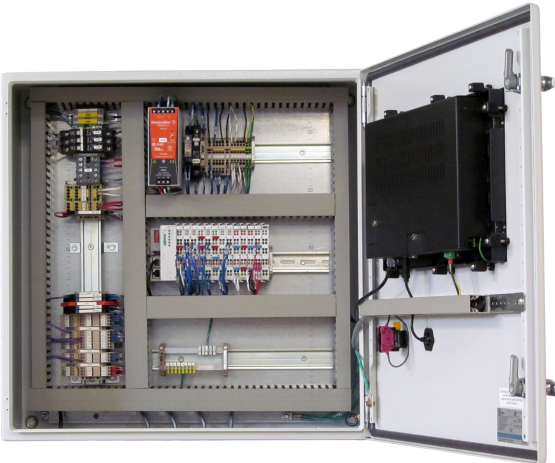

Fig.7: GEA Omni™ Enclosure interior
- Enclosure interior (see Figure 7, Page 15):